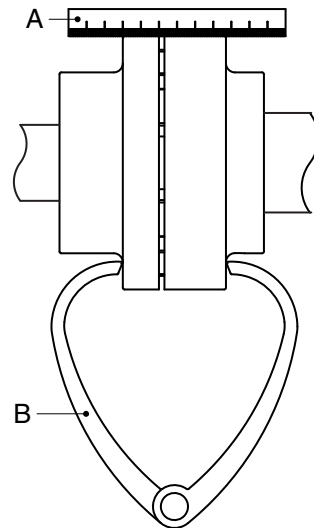

Figure 3: Aligning the coupling by means of a ruler and a pair of outside calipers.
- 1 Place a ruler (A) on the coupling. The ruler should touch both coupling halves across the whole width. See figure 3. Do this check on 3 spots around the coupling.
- 2 Check for a possible angular deviation, using a pair of outside calipers (B) at 2 corresponding points of the side surfaces of the coupling halves. See figure 3. Do this check on 3 spots around the coupling.